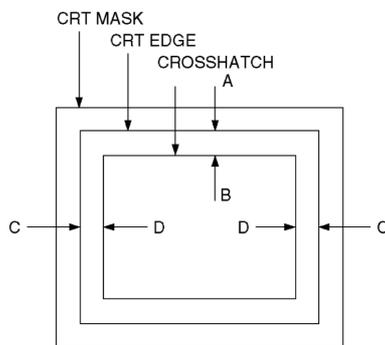

Fig. 8
1. Adjust V-AMP (VGA) so that $A = B$ in Fig. 8.
1. Adjust H-AMP (VGA) so that $C = D$ in Fig. 8.